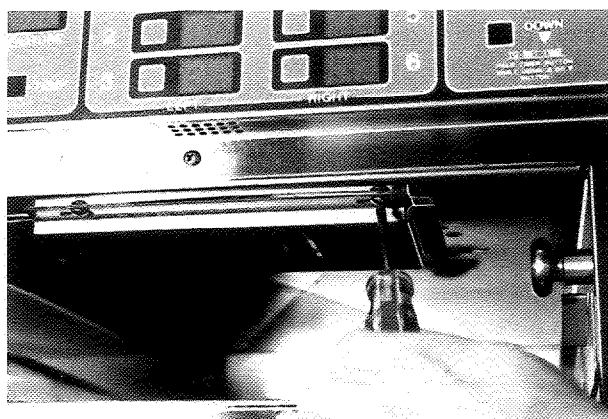

Figure 20
3. Loosen 4 screws holding access panel and remove panel. (See Figure 20)